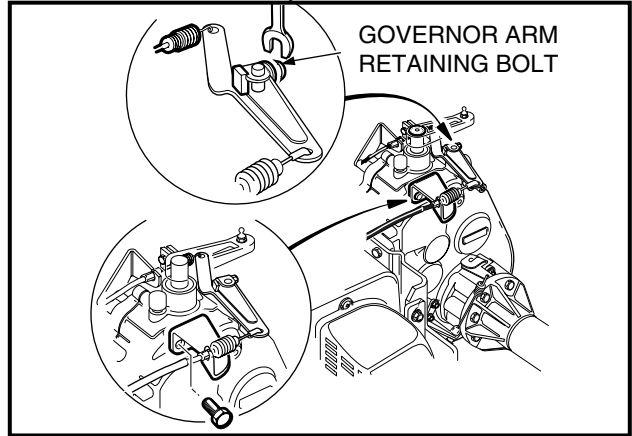

Figure 16-34 Governor Arm and Cable Bracket
18. Loosen, but do not remove, the governor arm retaining bolt. Remove the governor arm from the shaft (**Figure 16-34, Page 16-15**).
19. Remove screws securing the governor cable bracket to transaxle (**Figure 16-34, Page 16-15**).